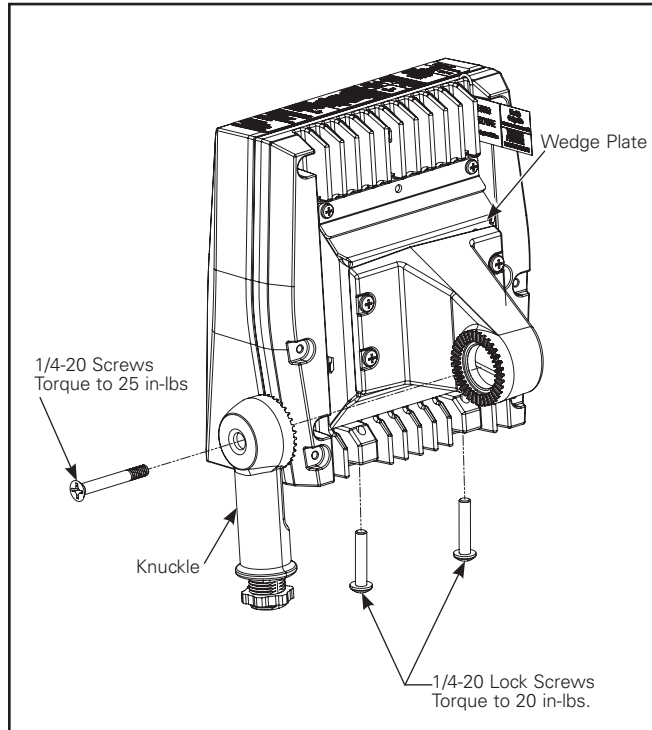

Figure 9. Axcent Small Pole Mount
3. Attach the knuckle mount assembly to the fixture and tighten (2) 1/4 -20 Phillips head screws to 20 in-lbs (Figure 9). Ensure that the luminaire supply leads are not pinched between the wedge plate and housing.